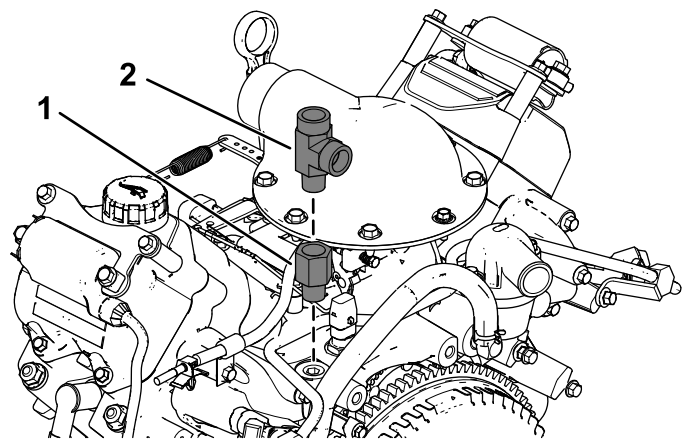

Figure 8
2. Install the adapter and tee fitting (Figure 8).